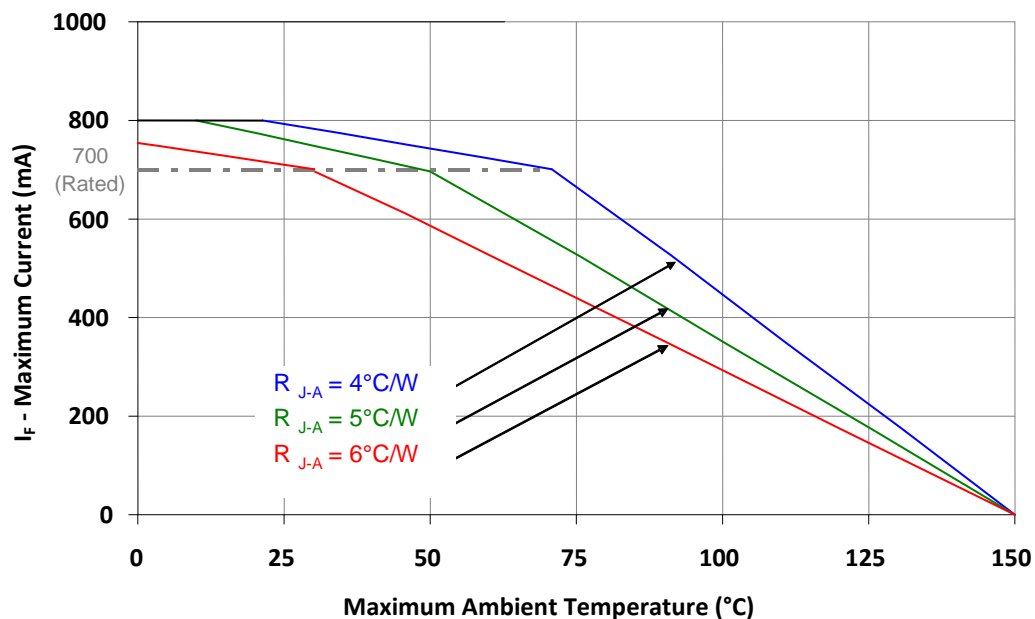

Figure 10: Maximum forward current vs. ambient temperature based on TJ(MAX) = 150°C.
- Maximum DC forward current (per die) is determined by the overall thermal resistance and ambient temperature. Follow the curves in Figure 10 for current de-rating.
Notes for Figure 10: